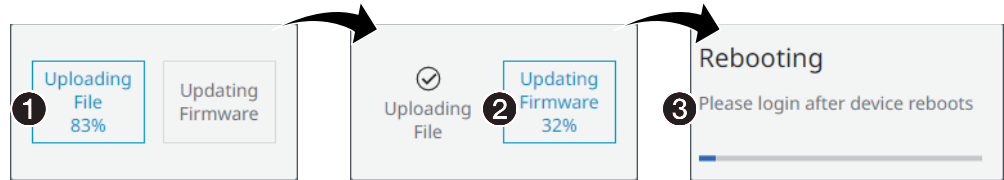

Figure 34. Firmware Upload Progress
5. Click **Update** (2).
The encoder page displays a sequence that reports the progress as it uploads the file (see figure 34, 1), updates the firmware (2), and then reboots (3).